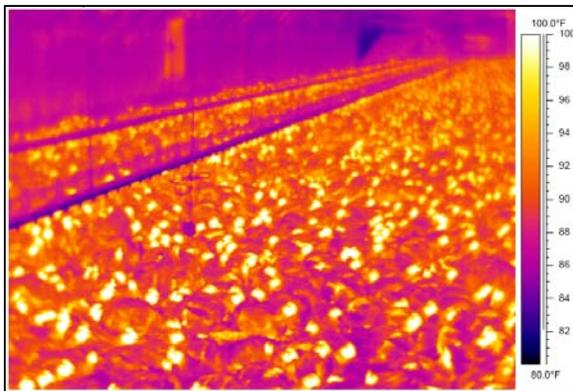

Figure 1. 400 ft/min, 86°F air temperature
- 3) Evaporative cooling pad water usage increases proportionally with fan capacity. 20% to 30% more fan capacity, 20% to 30% more water usage (Figure 1). When bird water and possibly fogging nozzles use is added, it is not uncommon to find a single house requiring a well capacity of nearly 20 gals/min! Supplying this amount of water often requires significantly larger well pumps, water pipes, pumps, bladder tanks, etc (*Poultry Housing Tips*. Broiler Farm Water Usage and Pipe Sizing Rules of Thumb. Volume 19, No 6).